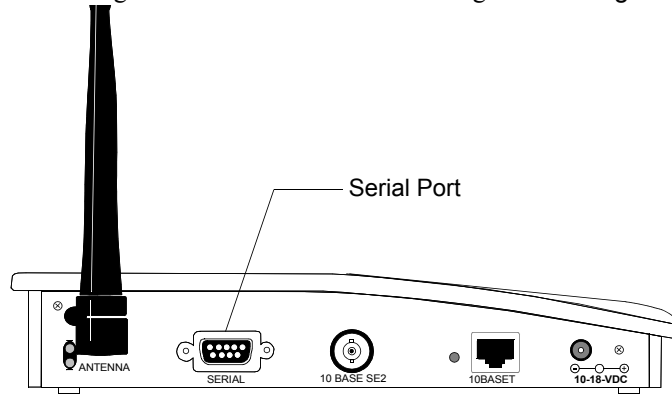

Figure 4-8 Rear Panel of RangeLAN2 Access Point
Step 1. Connect one end of the 9-Pin D Female - 9-Pin D Female cable to the 9-pin D Male Serial Port connector on the configuring PC and the other end to the **Serial** port on the rear panel of the RangeLAN2 Access Point to be configured. See Figure 4-8.